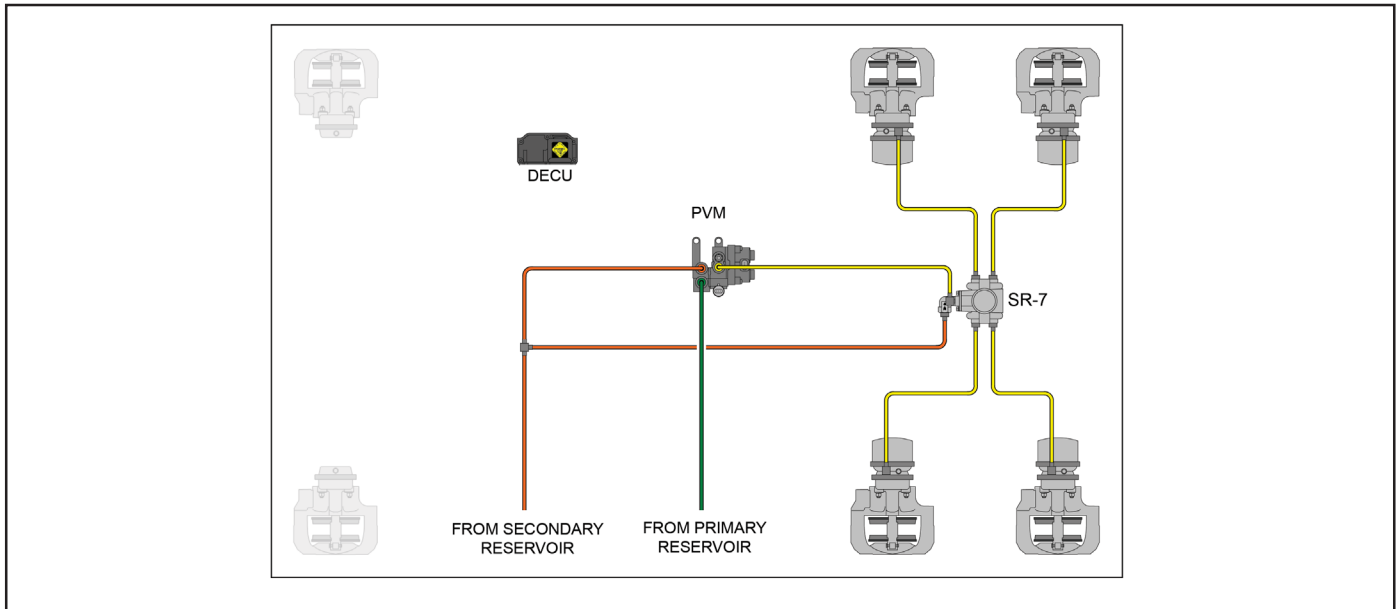

Figure 5 – Conceptual Schematic: Solo Truck or Solo Bus
- Vehicle Configurations:** The Intellipark system provides parking capability for commercial vehicles (tractors, trucks, and buses) that utilize air brakes. It is available in various models to support a wide range of applications. *See Figures 5 and 6* for examples of conceptual installations and connectivity of the Intellipark EPB systems units on different vehicle configurations.